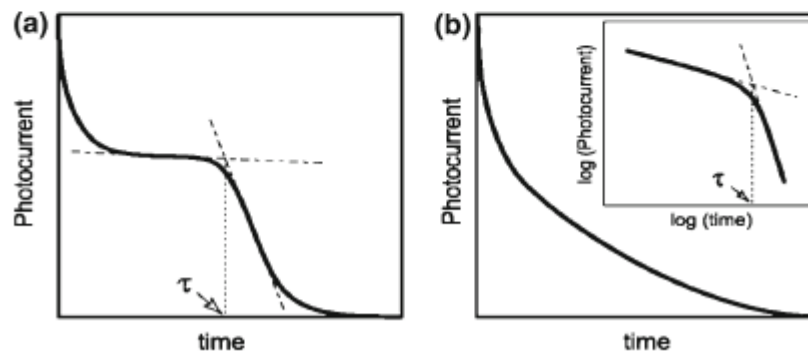

Fig. 4 Typical transient photocurrents: a non-dispersive; b dispersive. Inset double logarithmic plot
**Figure 4.** a) Double-pass optical absorption spectra of typical planar and NWN devices. b) External quantum efficiency spectra of the same devices. c) Capacitance-2 vs voltage curves for the NWN device showing that the device is substantially fully depleted even under slight forward bias. d)  $J-V$  curves under AM1.5 illumination of typical planar and NWN devices. The optimized NWN device shows the same open-circuit voltage as the planar counterpart, and a considerably increased photocurrent.